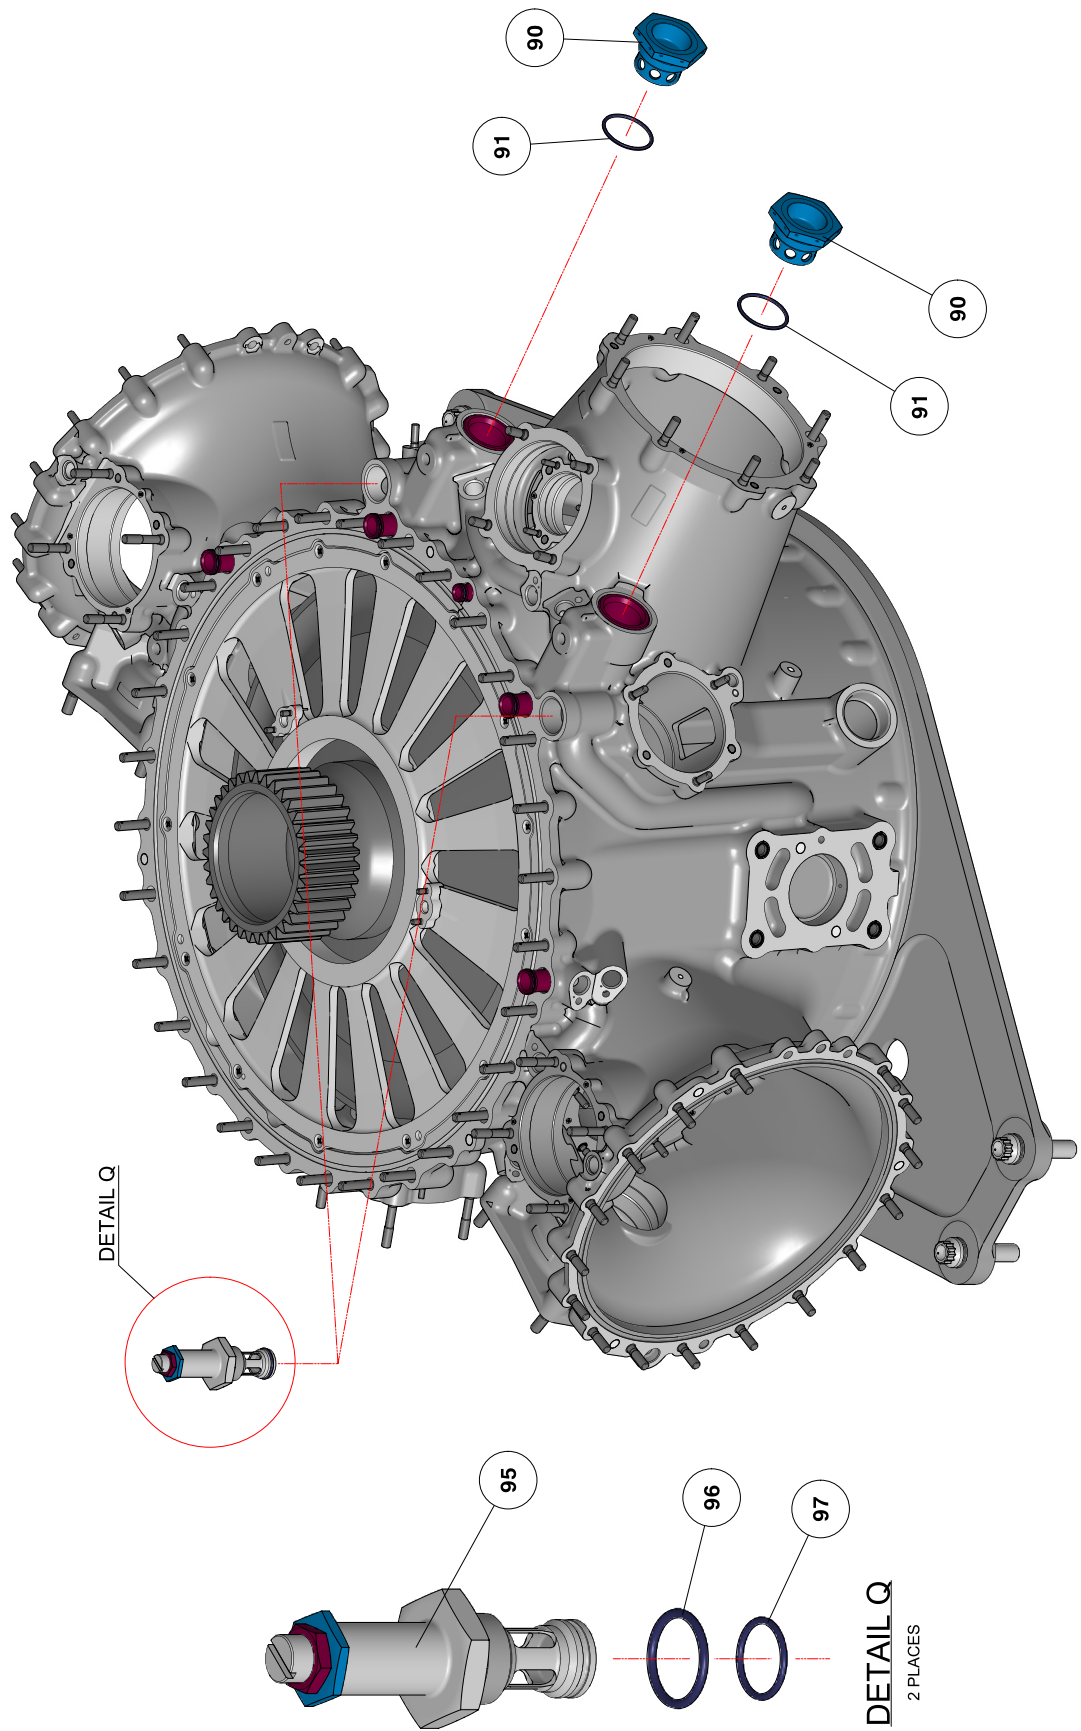

Figure A3
19. With reference to Figure A3, lubricate with Parker “Super O-Lube” the packing (91) and put it on the check valve plug (90). Apply a small quantity of grease MIL-PRF-81322 on the plug fillets.
20. With reference to Figure A3, install the packing (91) and the check valve plug (90). Torque the check valve plug (90) to 29.4 thru 34.3 Nm. Safety the plug (90) to the main case assembly with the lock wire.
21. With reference to Figure A3 detail Q, lubricate with Parker “Super O-Lube” the packings (96) and (97) and put them on the oil relief valve (95). Apply a small quantity of grease MIL-PRF-81322 on the oil relief valve (95).
22. With reference to Figure A3 detail Q, install the packings (96) and (97) and the oil relief valve (95). Torque the oil relief valve (95) to 26.7 thru 31.4 Nm. Safety the valve (95) to the main case assembly with the lock wire.